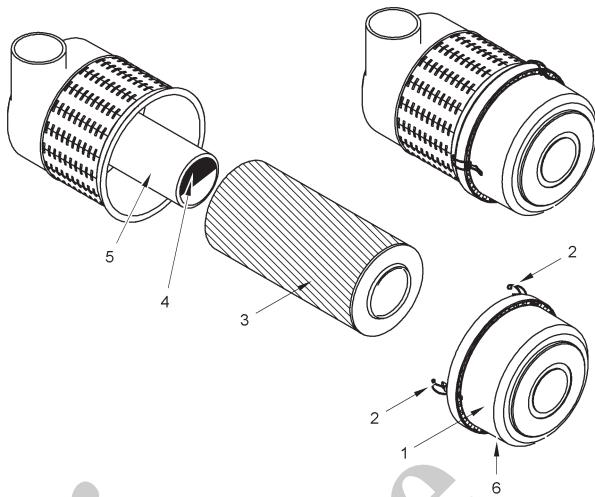

Fig. 12 Structure air filter
| 1 | Open the locking clamps (2) in Fig. 12 of the air filter cover (1) and remove the air filter cover. |